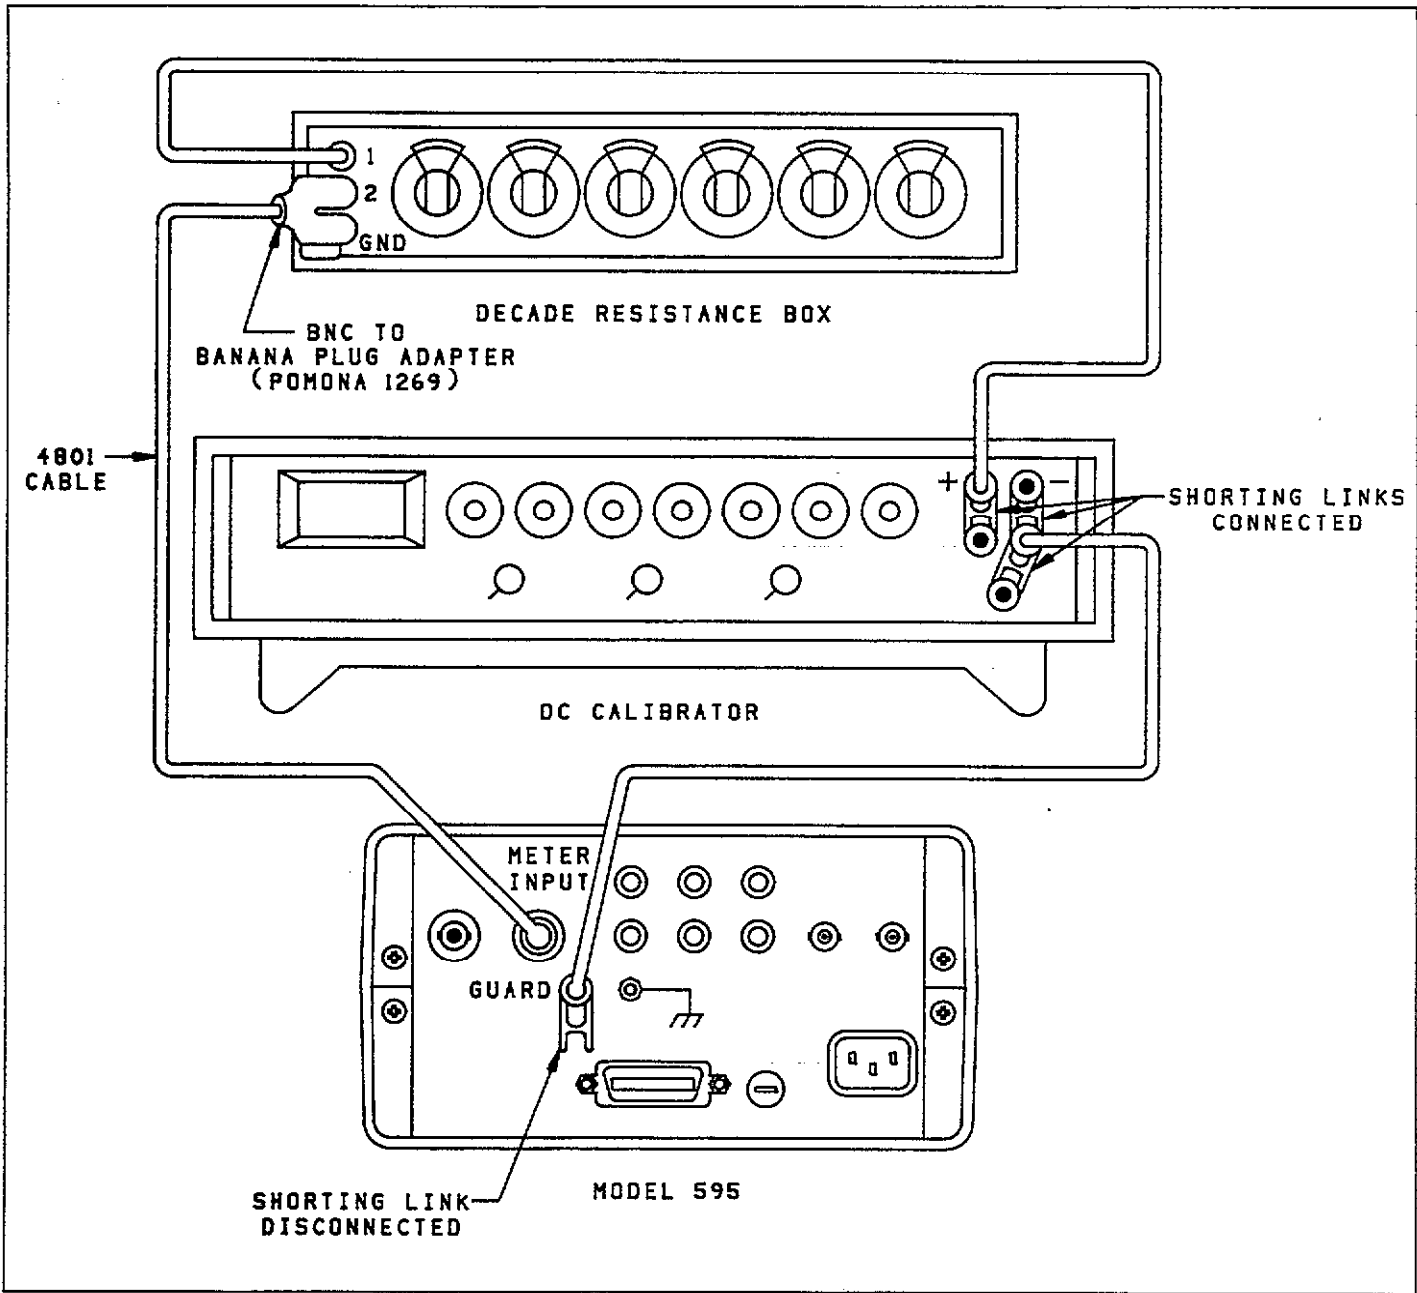

Figure 6-2. Setup for Current Verification (200nA to 200 μ A Ranges)
3. Connect the DC calibrator and decade resistance box to the instrument as shown in Figure 6-2.